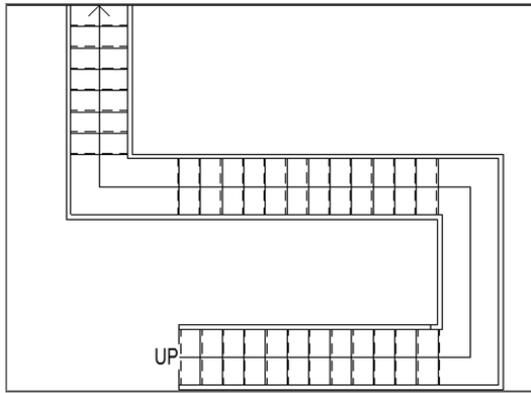

FIGURE 10.65: The stairs as shown in plan
8. Click Finish Sketch. Your stairs should look like Figure 10.65.